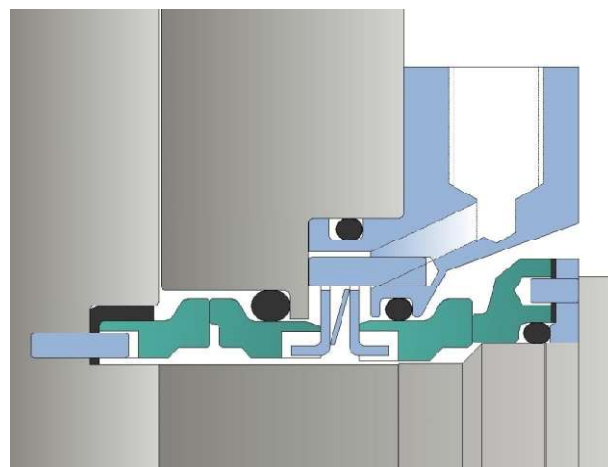

Figure 28 - Double mechanical seal
- To re-assemble, place the O-ring (93) in the double seal housing (95), lubricate the outside of the static seat with a suitable lubricant compatible with the barrier fluid. Align the slots in the seal face with tabs of drive plate (94) in the seal housing, (Figure 28) and push the seat fully in. The seat should slide freely against the plate (94) and wave spring (82).
- Fit the O-ring (93) to the rotary seal seat (92). Gently push the seal seat squarely on to the shaft, aligning the hole in the rear of the seal face with the pin on the support ring.